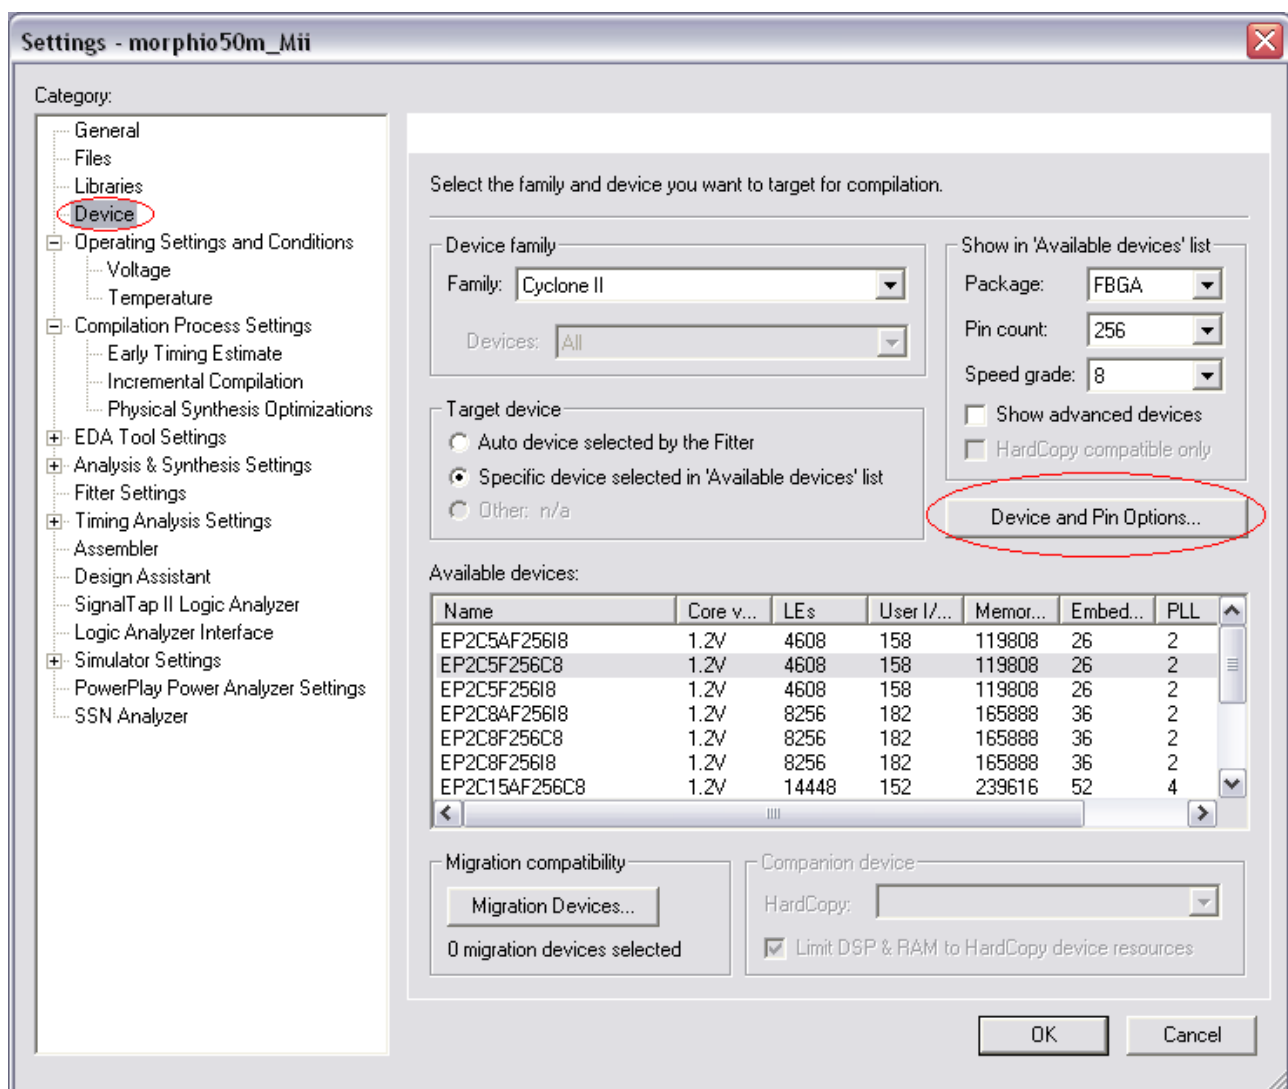
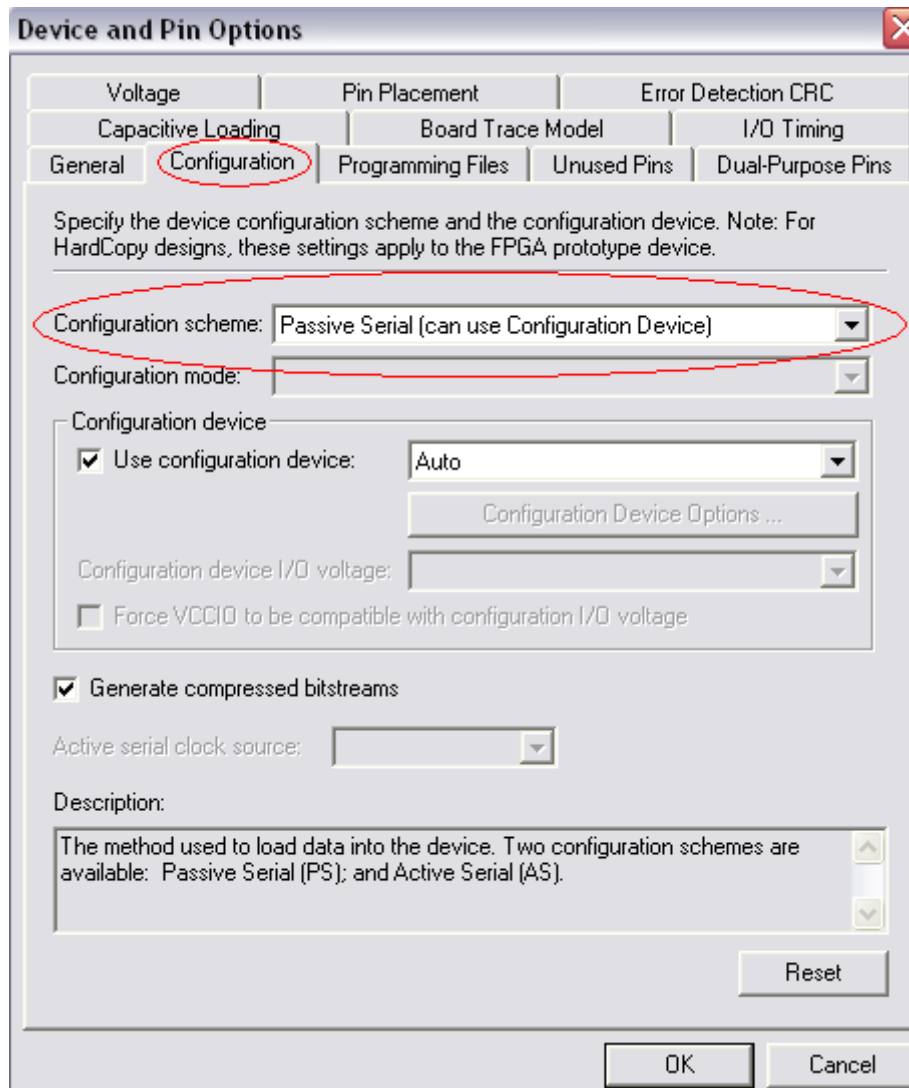

Fig. 7 – Device and Pin Options
Fig. 8 – FPGA Configuration
Step 2: When "create a new project" is selected the screenshot shown in Fig 7 will be displayed.
This is done by opening the project settings window by clicking on Assignments -> Settings and opening the *Devices* tab. The window shown in Fig 7 will be displayed.
Click on the *Device and Pin Options...* button highlighted in Fig. 7. This will open the Device and Pin options menus as shown in Fig 8. In this menu, modify the configuration scheme to *Passive Serial* mode as shown in Fig. 8.